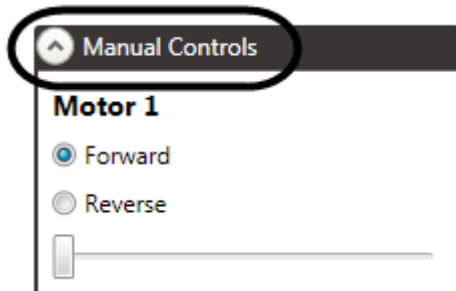

Figure 30
2. With the motor still selected in the **Cue Grid**, scroll through the **Motor Editing Pane** on the right side of the screen until you see the **Manual Controls** section (Figure 30).